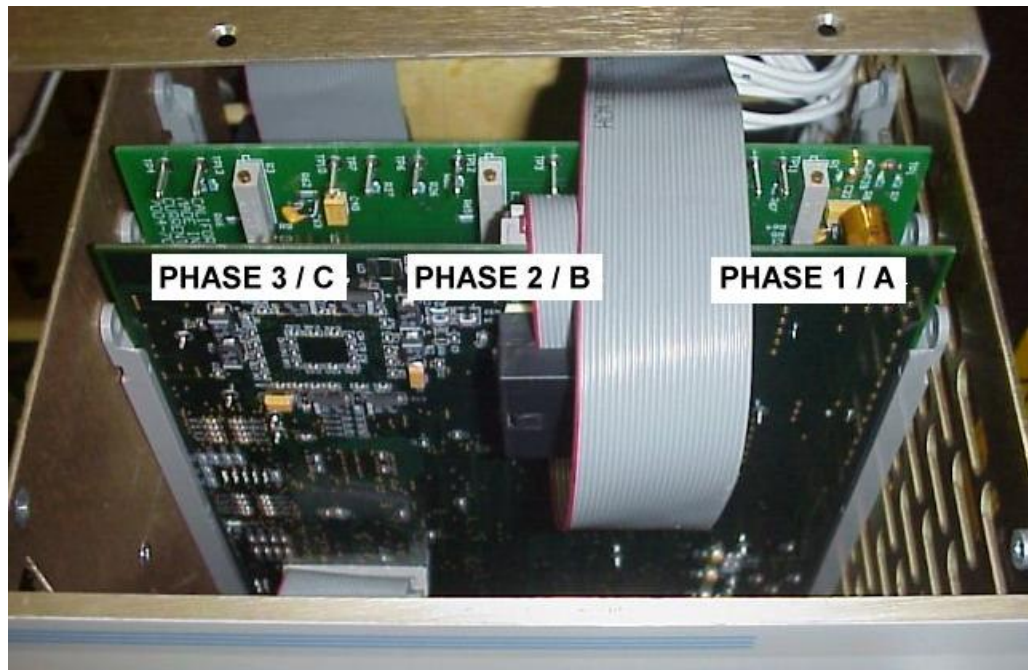

Figure 6-1: Location of Gain pot adjustments
2. Loosen the top cover and slide back until the Current Limit board assembly (P/N 7004-703-1) is uncovered. This is the vertical board directly behind the CPU/Controller board. Refer to Figure 6-1.